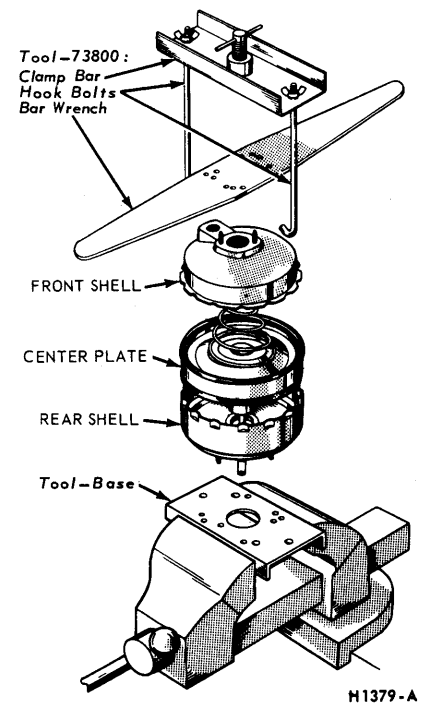

FIG. 27—Disassembly and Assembly of Power Section
1. Clamp the base of Bendix tool 73800 in a vise and insert the studs of the rear shell in the holes in the base (Fig. 27).
2. Clamp the holding fixture base of Bendix tool 73800 in the vise and insert the studs of the rear shell through the matching holes of the fixture (Fig. 27). When assembling the center plate and diaphragm assembly in the rear shell, the rear diaphragm and center plate lugs must be aligned between the lances on the rear shell. Carefully guide the valve housing sleeve through the bearing seal in the rear shell keeping the center plate and diaphragms in